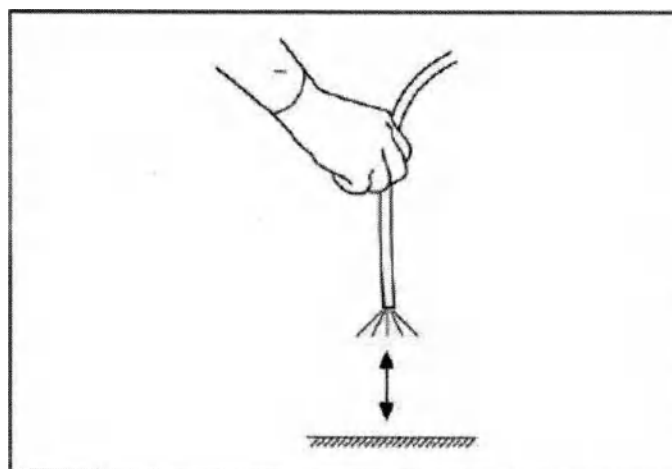

Fig 3.9
3. Put the endoscope's distal end to a suitable object, and move between 1cm and 6 cm. Confirm that the brightness of the image on the LCD screen remains constant. (Fig 3.9)